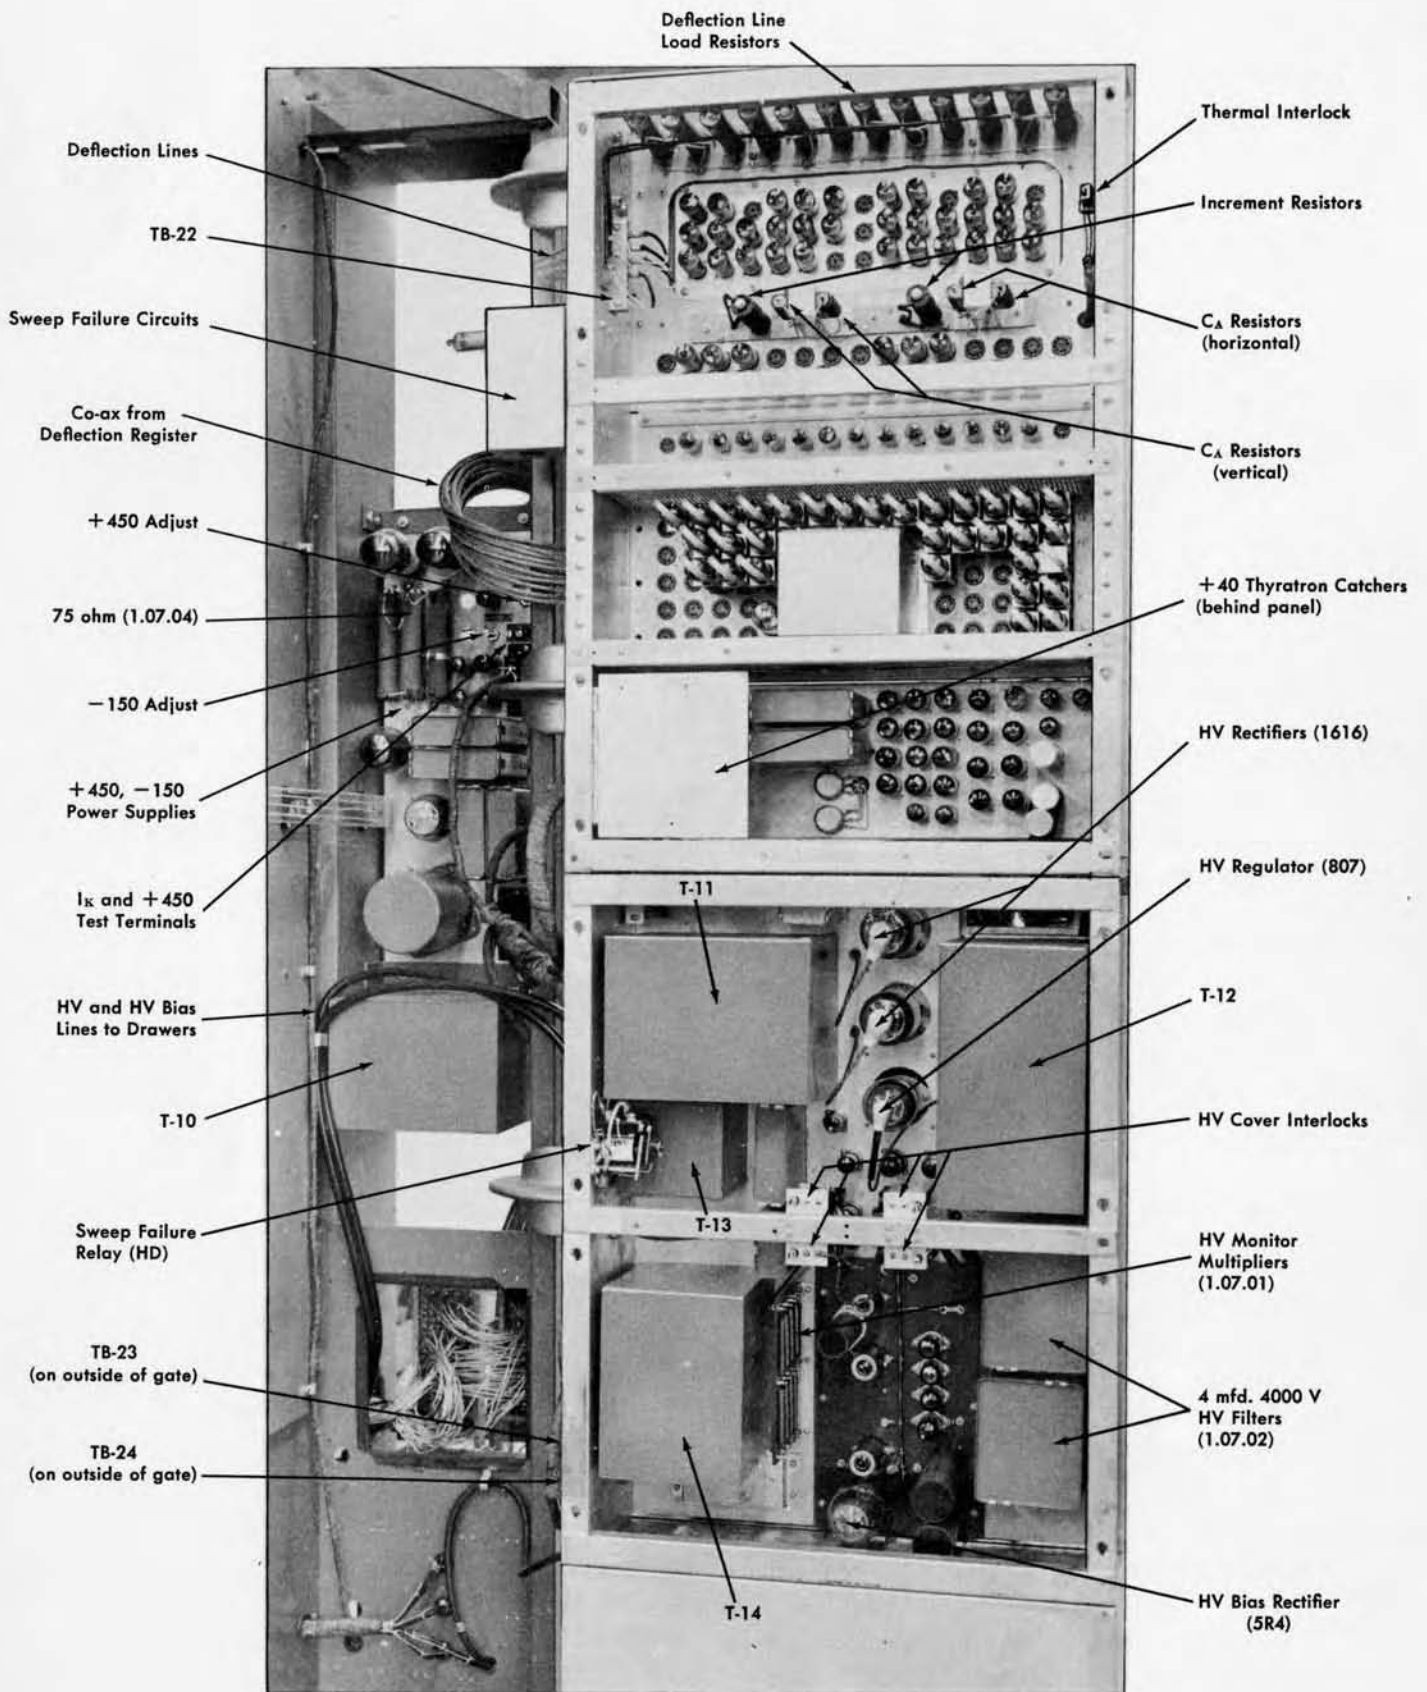

Figure 1 Front of ESM Gate
2. Adjust the 75 ohm Adjustable Resistor potentiometer in the +400 volt supply (Fig. 1) for 2.5 volts measured at the test terminals labeled  $I_k$  and +450 (Fig. 1.)
1. With machine in Regeneration using a DC voltmeter (1000 ohms/volt or better) measure the DC voltage on all 4 deflection lines (U, D, R, L) at TB22. (Fig. 1)
Consider a typical dot signal as viewed at the video amplifier sixth stage. (See Fig. 1.) As the "potential well" of the dot is filled by the collection of secondary electrons from surrounding areas in the cathode ray tube, the negative swing of the dot will go in a positive direction (refer to Curve A). As long as this swing stays negative, increasing the amplifier gain will have no effect on the changing of this dot to a dash. However, when the spill becomes sufficient to cause this swing to go positive, (refer to Curve B), it is possible to increase the amplifier gain to the point where the positive dot will go above the clipping level enough to appear as a dash signal.